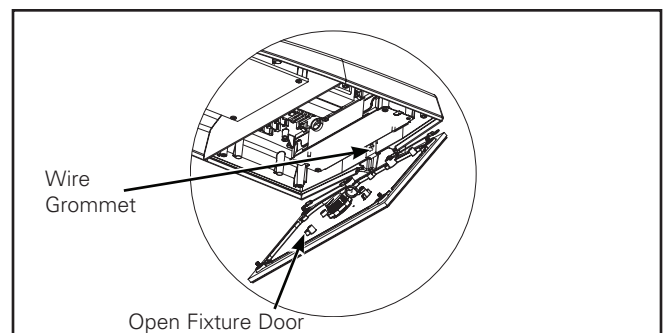

Figure 8.
- Open fixture door by loosening the (4) Phillips head screws (or thumb screws if supplied) on the door. (Figure 8.)
- Remove wire grommet for fixture wires at the back of the fixture. (Figure 8.)